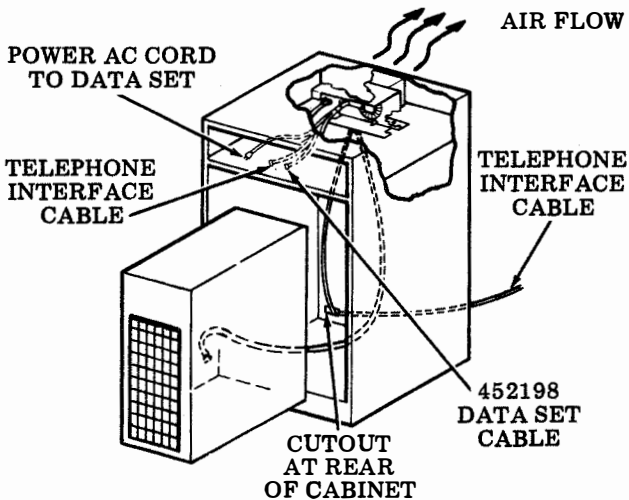

Fig. 4
3.06 Route the telephone interface cable into the cabinet through the cutout at the bottom of the rear side of the cabinet. Route the 452198 data set cable and telephone interface cable up through the cutout in the left rear corner of the shelf and position the ac power cord (to data set) from the fan assembly to the front of the cabinet together with the 452198 cable and telephone interface cable. See Fig. 4.